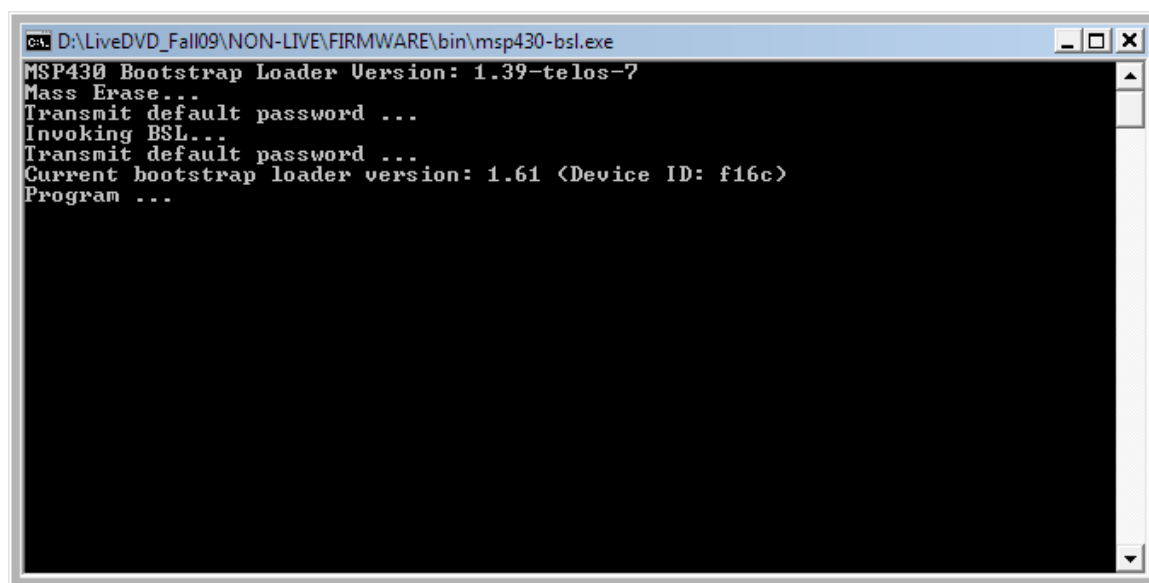

Figure 1-10 BSL430 Programming
2. A Windows such as that illustrated in Figure 1-10 should pop up. In addition, the UART Indicator light on the Dock will flash. Depending on the program size, it may take up to five minutes to program a Shimmer, but blink is quite small and the firmware update should complete quickly.